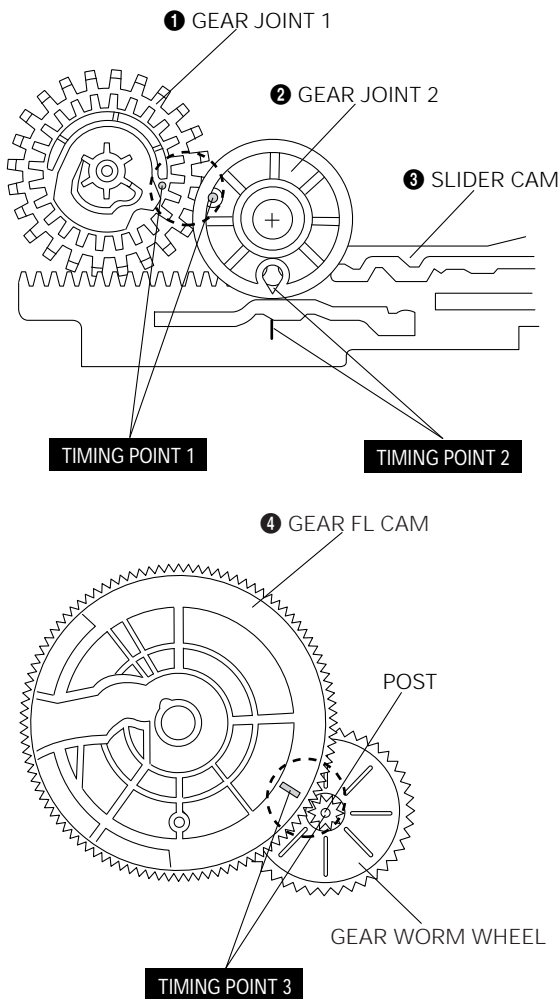

Fig. 1-10 Assembly of Gear FL Cam, Gear Joint 1,2
- 1) Be sure to align dot mark of Gear Joint 1 ❶ with dot mark of Gear Joint 2 ❷ as shown Fig. 1-10 (Refer to Timing Point 1), confirm the Timing Point 2 of the Gear Joint 2 ❷ and Slider Cam ❸.
- 2) Align the Gear FL Cam ❹ with the Gear Worm Wheel Post as shown detail drawing. (Refer to Timing Point 3)